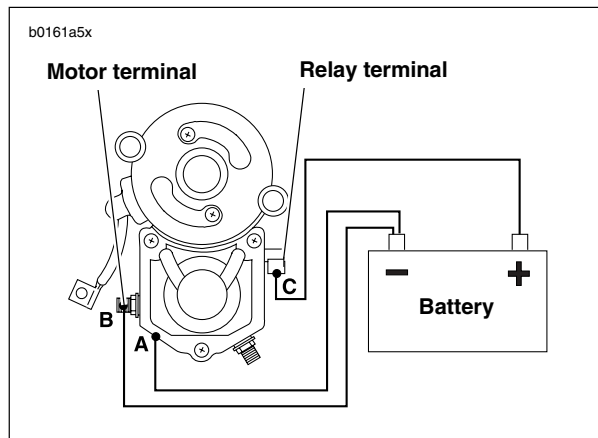

Figure 5-11. Pull-In Test
- *Do not disassemble solenoid. Before testing, disconnect field wire from motor terminal as shown in Figure 5-11.*
1. See Figure 5-11. Using a 12 volt battery, connect three separate test leads as follows: